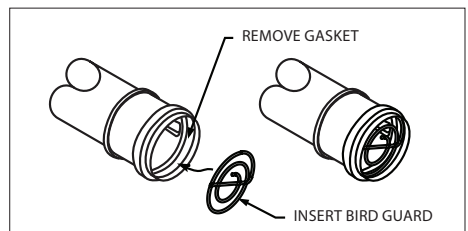

Figure 10
8. Remove gasket and install Bird Guard into end of pipe. **(Fig.10)**